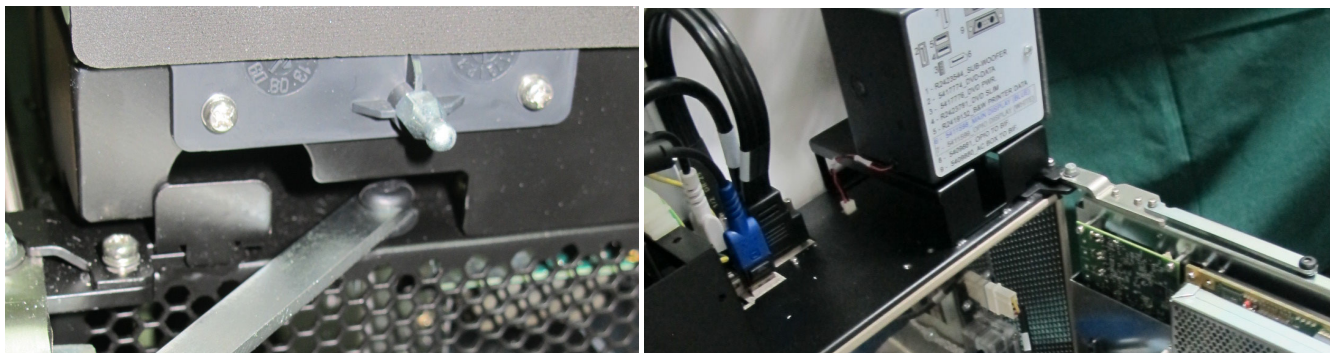

Figure 8-139 Releasing Cage Supporting Arm from Device Chassis
- 6.) Release the cage supporting arm from the device chassis and return it to its location on the cage - see Figure 8-139.
- 3.) Secure the cage door using the cage door securing arm - refer to Figure 8-139 on page 8-108.
- 7.) Release the cage securing arm from the device's chassis and return it to its position on the cage door - refer to Figure 8-139 on page 8-108.